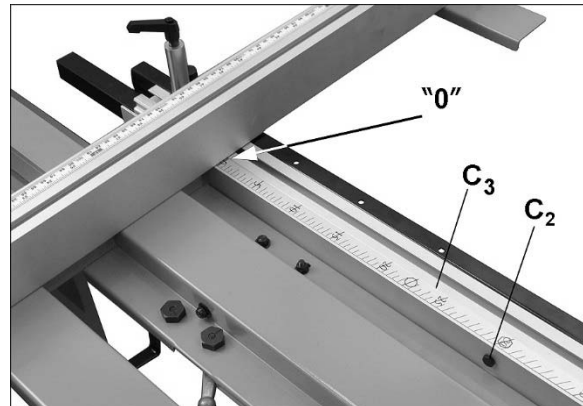

Figure 8-6
- Loosen screw (C₂, Figure 8-6) on angle rail and slide angle scale (C₃) until zero is aligned with vertical face of fence.